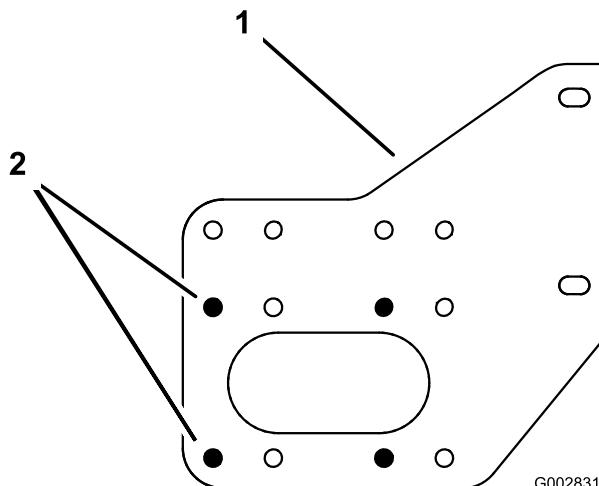

Figure 4
1. Use Figure 4 for the correct holes to use when installing the side plate and ROPS.